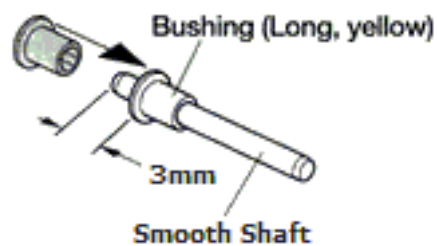

Figure 1.7
1. Press a yellow bushing onto each the smooth shafts, as shown in figures 1.7 and 1.8. There should be 3mm of exposed shaft from the flanged side of each bushing. Set aside temporarily.